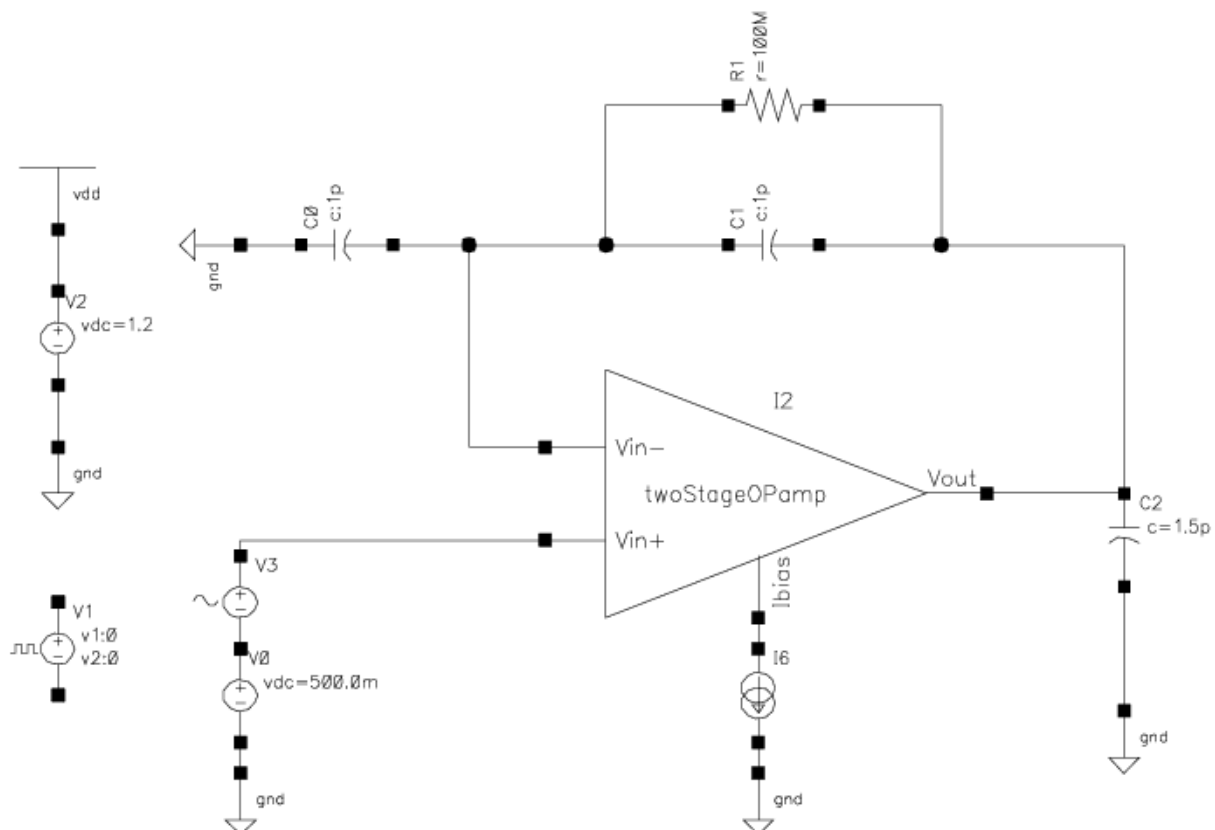

Figure 5. Test bench for closed loop simulations.
4. How can the loop gain be measured? Indicate this in fig 5.
Now it is time to close the loop so the test bench looks like the schematic in figure 5. Do the AC simulation again and measure  $A(s)$ , the closed loop gain, like you did in the open loop case. Are there any differences from the open loop case? Discuss/ explain in the rapport.